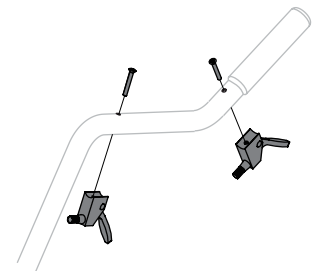

Figure 16
- Mount cable levers (746-04794) from hardware pack 689-02139 to upper control tube with two screws (710-1625). See Figure 16.